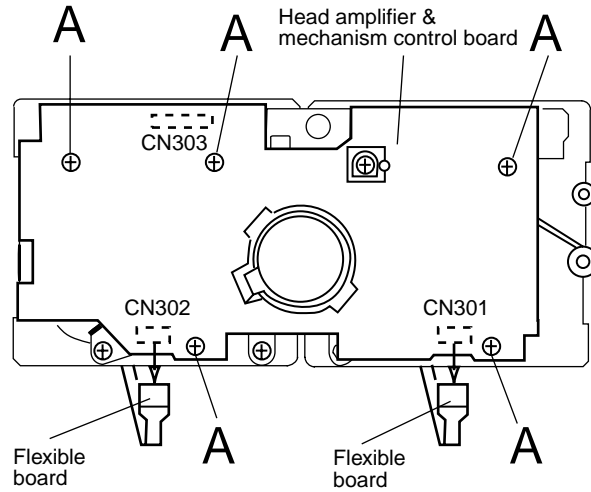

Fig.4
**■ Removing the head amp. and mechanism control board (See Fig. 4)**